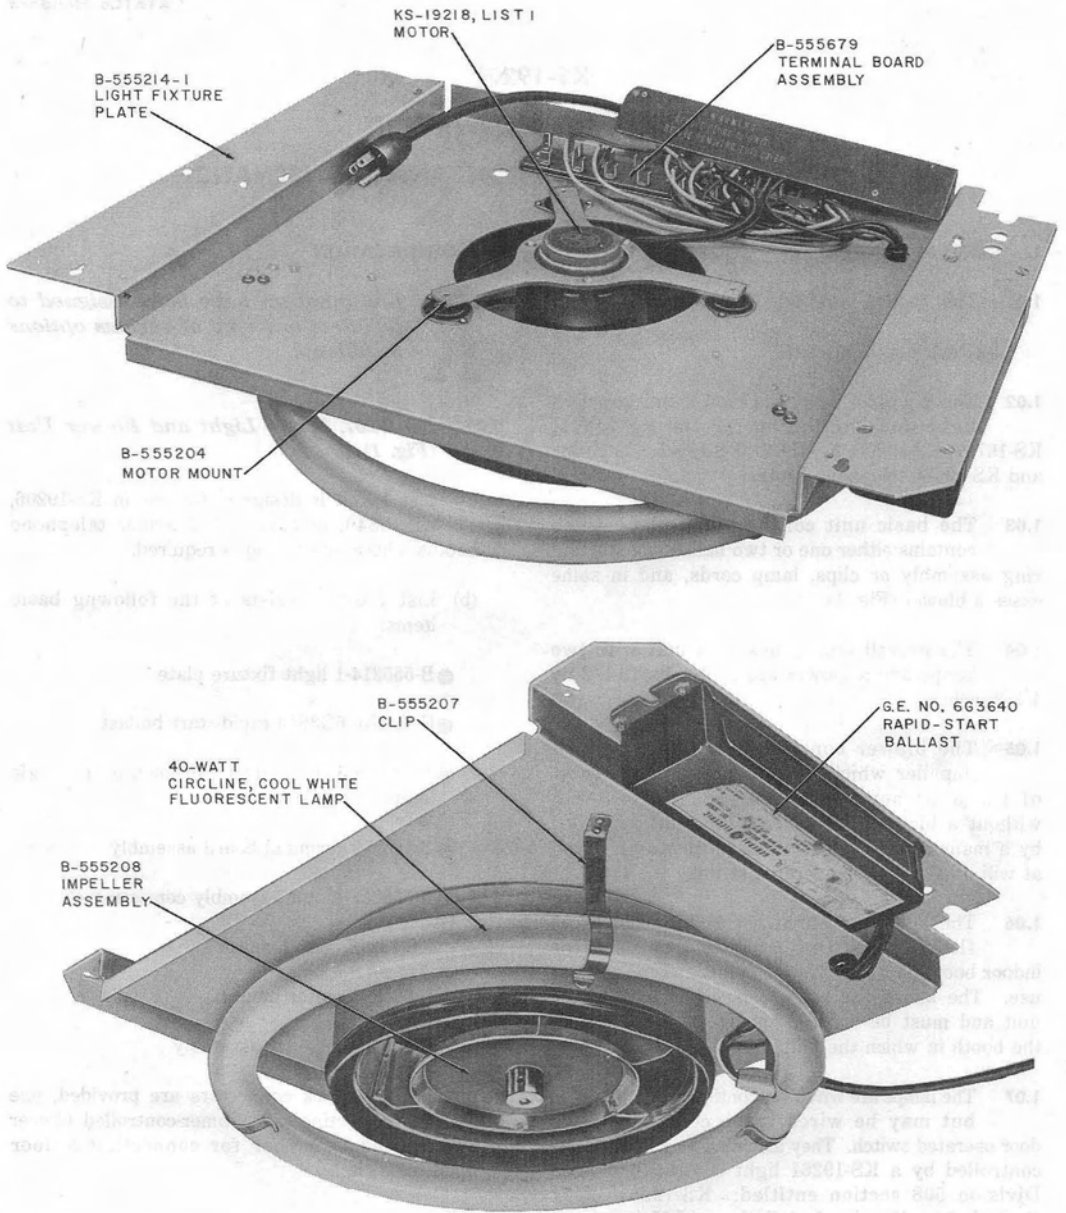

Fig. 1—KS-19207, List 1 Light and Blower Unit Plus Lamp
1.03 The basic unit consists of a plate which contains either one or two ballasts, a starting ring assembly or clips, lamp cords, and in some cases a blower (Fig. 1).
2.01 KS-19207, List 1 Light and Blower Unit (Fig. 1)